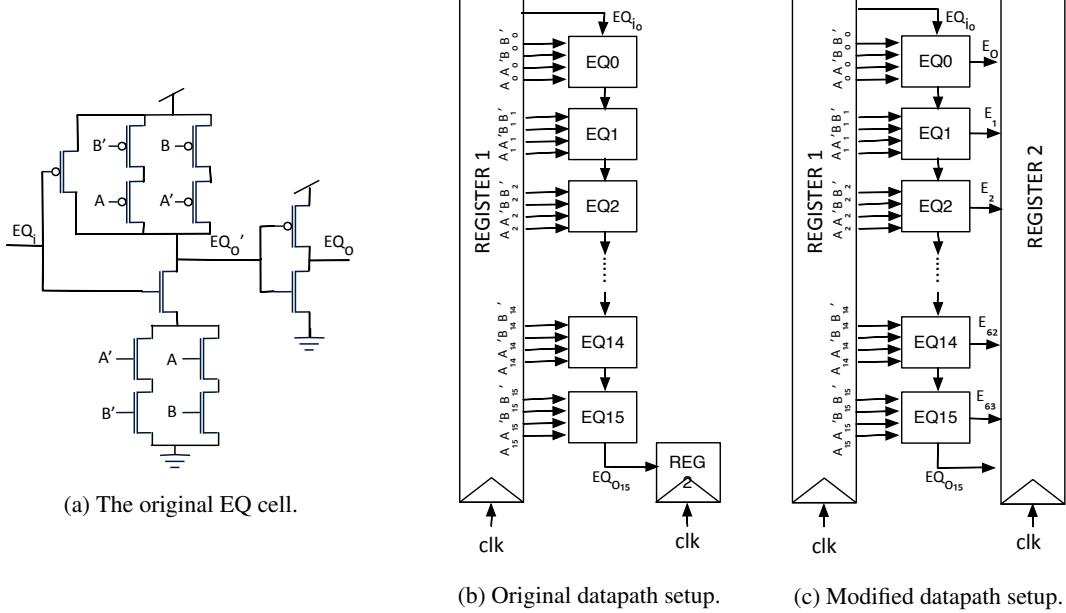
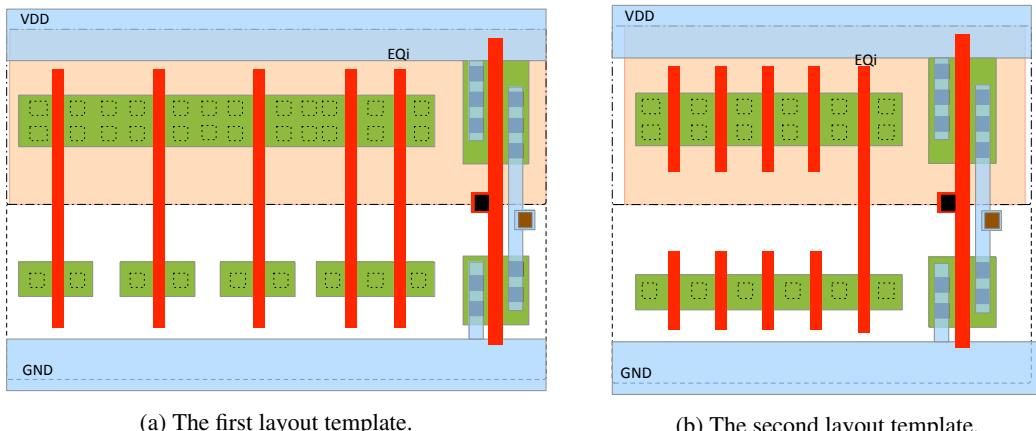

Figure 1: Equal circuit design problem.
Figure 2: Two templates for the layout of the original EQ cell shown in Figure 1(a).
You are the designer for a new 16-bit processor. Your task is to design an circuit for the data path. It should take two 16-bit numbers as its input and produce a 1-bit output that is "1" if the numbers are and "0" if they are not. Figure 1(a) shows the EQ cell that has been previously designed. In Figure 1(b) you see the setup with two registers that are placed before and after your circuit. You can assume that in this process you are designing a p-transistor gives half the current of a nMOS transistor of the same width, and that $p_{inv} = 1$.
- For the EQ gate (that is, the compound gate without the inverter shown in Figure 1(a)) find the logical effort, g , for the EQi input and the parasitic delay, p . (2 p)
- Derive the optimal sizing of the cell shown in Figure 1(a), that is size the EQ gate relative to the inverter. Assume that the smallest transistor sizes in the cell correspond to those of an X1 inverter. With this sizing
- c) You have just been informed that there has been a change of plans: the EQ cell has to also generate an additional output, E, which should be "1" if the A and B cell inputs are equal and "0" otherwise. Refer to Figure 1(c) to see how the modified EQ cell is to be used in the processor datapath. Redesign the EQ cell so that the E output is also generated. Due to size constraints you cannot just add an additional separate gate for E, but have to try to share resources with the existing circuitry. Derive the logic function for E and draw the schematic of the new cell. Also draw a sketch of exactly how your modified cell is to be connected to the registers in position EQ0 and EQ15 as shown in Figure 1(c). (3 p)
- a) Draw the layout for the EQ cell in Figure 1(a) in the template supplied in Figure 2(a), which uses single-
line-of-diffusion layout only for the p-net. The layout should match the schematic in Figure 1(a) exactly. Label the inputs and other nodes clearly. In this task you are not allowed to use the metal-2 layer for routing in the cell. (5 p)
b) Redo the layout also in the templates supplied in Figure 2(b) which uses single-line-of-diffusion also in the n-net. Note that here the order of the inputs in the p- and n-net will have to differ. In this task you are allowed to change the ordering of the transistors from the one given in the schematic if you want to. If you do so, please redraw the schematics with the ordering that corresponds to your layout. For each of the inputs A, A', B and B' there should be only one connection point within the cell, so you need to use poly or metal to form the connections. Label the inputs and other nodes clearly. In this task you are allowed to use the metal-2 layer in the cell if necessary. (5 p)